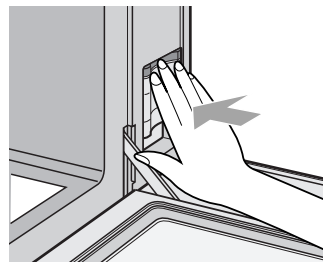

Figure 3
5. Install the water tank by pushing firmly. (Figure 3)